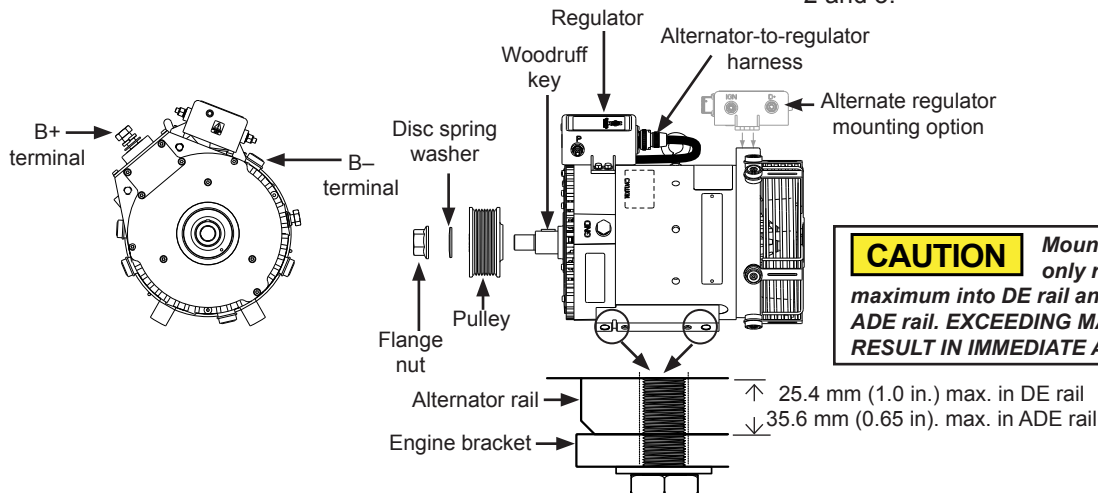

Figure 1: C703/C703A/C703L Alternator Installation
- Install pulley and furnished disc spring washer with beveled side facing pulley. Torque pulley nut to 163 Nm/120 lb. ft. See Figure 1.
CAUTION *Minimum recommended thread engagement is 12.7 mm (0.5") into drive end mounting holes and 16.5 mm (0.65") into anti-drive end mounting holes. Maximum mounting screw depth into alternator mounting rail holes, regardless of washer and bracket stackup, is 25.4 mm (1.0 in.) for DE rail and 35.6 mm (1.4 in.) for ADE rail. See Figure 1 inset. EXCEEDING MAXIMUM DEPTH WILL RESULT IN IMMEDIATE ALTERNATOR FAILURE.*